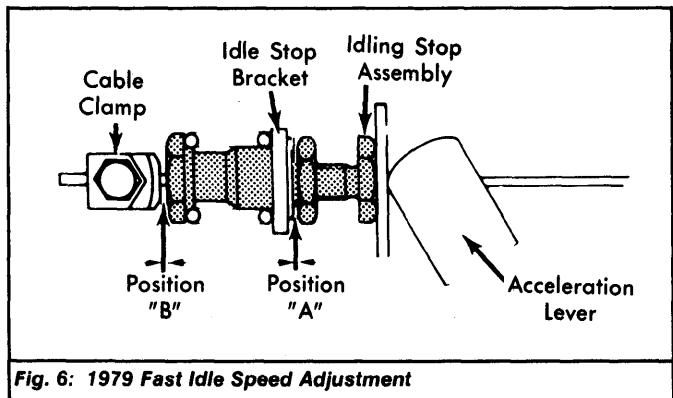

Fig. 6: 1979 Fast Idle Speed Adjustment
1979 Models - 1) Engine should be at normal operating temperature with acceleration lever resting against idle stop. Adjust cable housing tensioner until a .004" (0.1 mm) feeler gauge can be inserted between idle stop bracket and idle stop nut (position "A"). See Fig. 6.
2) With feeler gauge inserted in position "A", adjust cable housing tensioner to obtain a .080" (2.0 mm) clearance between cable clamp and idle stop assembly (position "B"). See Fig. 6. Remove feeler gauges.